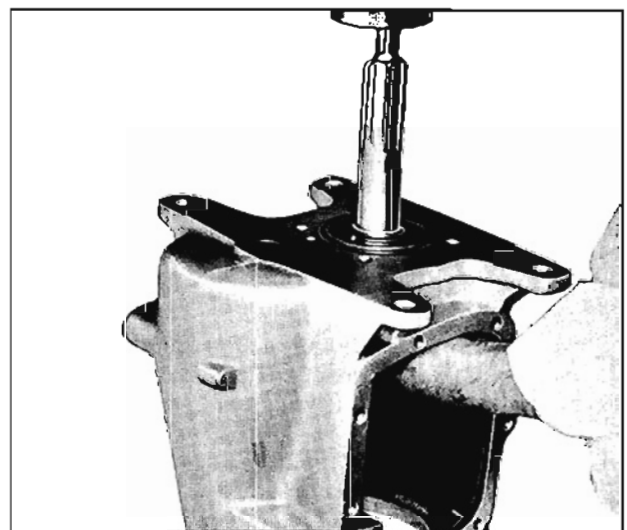

Fig. 7-210 Removing Main Drive Gear
11. Press main drive gear down from front bearing. (Fig. 7-210)